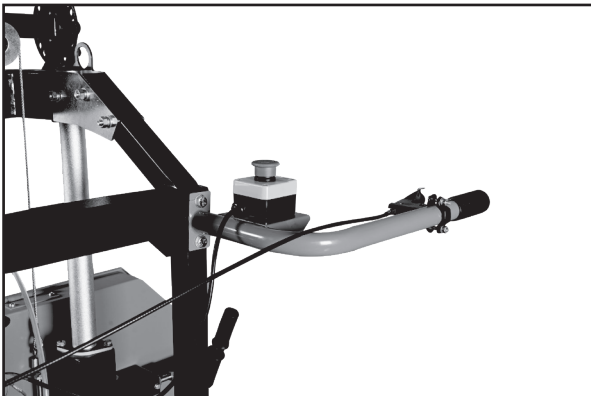

Fig. 41
Step 25: Install the Push Bar. Remove the two bolts that fasten the Rear Carriage Crossbeam to the vertical upright and located behind the Round Support Beam. Place the Push Bar with Emergency Switch onto the vertical upright behind the Rear Carriage Crossbeam (Fig. 41), align the holes and attach using the fasteners. If the Accelerator Cable Tension needs to be adjusted, try adjusting it on the Accelerator Handle adjustment nut first. If there is not enough travel on this nut, back the nut off and adjust the cable tension at the carburetor on the engine.